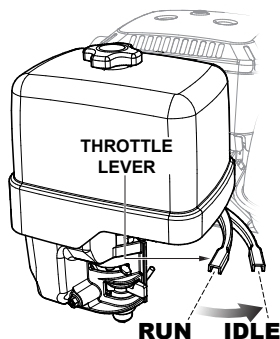

Figure 23. Throttle Lever (Idle)
- Place the throttle lever (Figure 23) in the idle (slow) position, and let the engine idle 3~5 minutes.